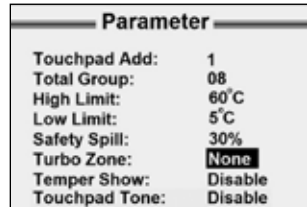

Figure 6.
- Go to TURBO menu by pressing or button and highlight Group Name (the current name of the turbo group). If there is NONE, then there is no group assigned as Turbo group (Figure 6).